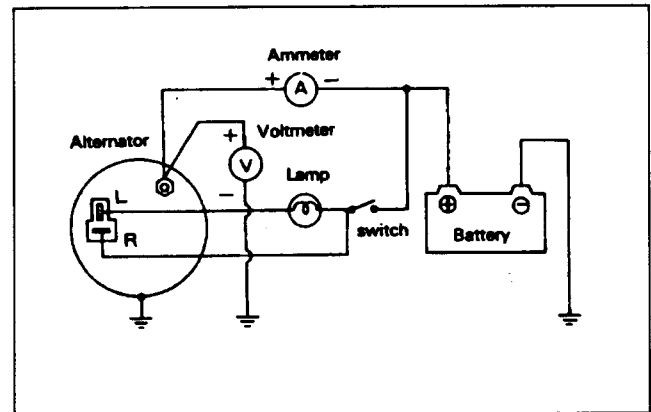

Figure 31
2. Install an ammeter between the positive (+) terminal of the battery and terminal "B" of the alternator (Fig. 31).